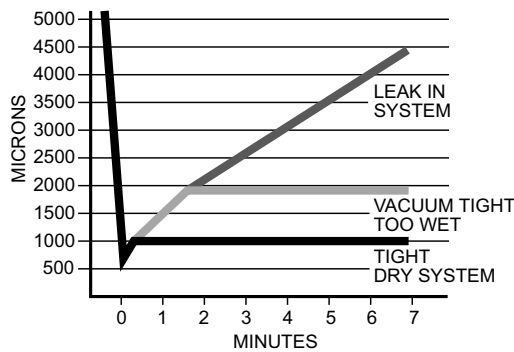

Fig. 10 – Deep Vacuum Graph
- Perform a leak check on the unit. Vacuum unit to 500 microns. When isolating the unit from the pump, the pressure shall not rise above 1000 microns in 7 minutes (Fig. 10).